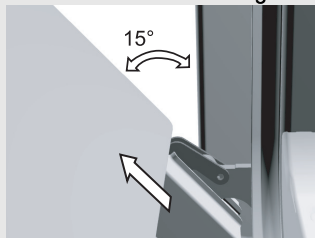

figure 2
- Slowly close the door until the clips are pressed against the supports / seats. At approximately 15° (relative to the closed door position), pull the door slightly upward and pull them out of the both hinge supports on the appliances (Figure 2).